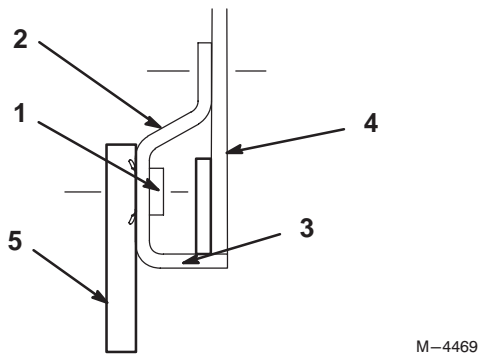

Figure 4
- Position the lower leg of each mounting bracket under and up tight against the bottom lip of the rear deck wall (Fig. 4).
Note: Note which side retainer nut is installed on in figure 4.